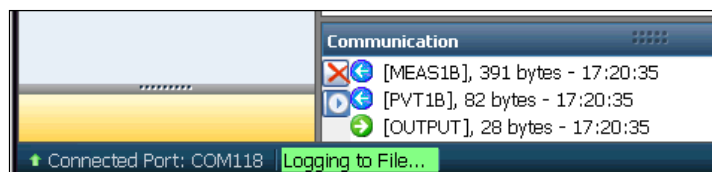

Figure 149: Logging Indicator
- ✓ Click the *Start* button to start logging. *Logging to File...* is illuminated on the left side of the Status Bar (see Figure 149).